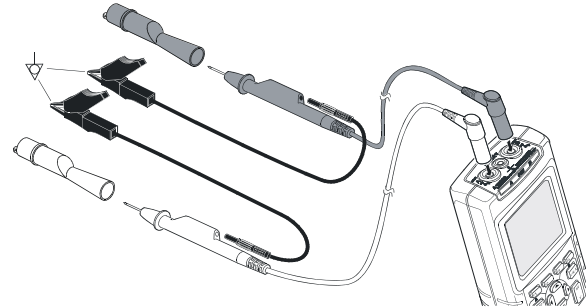

Figure 3-2. Grounding with Short Ground Lead
- Use the short ground lead(s) when measuring DC or AC signals on input A and input B. (See Figure 3-2.)